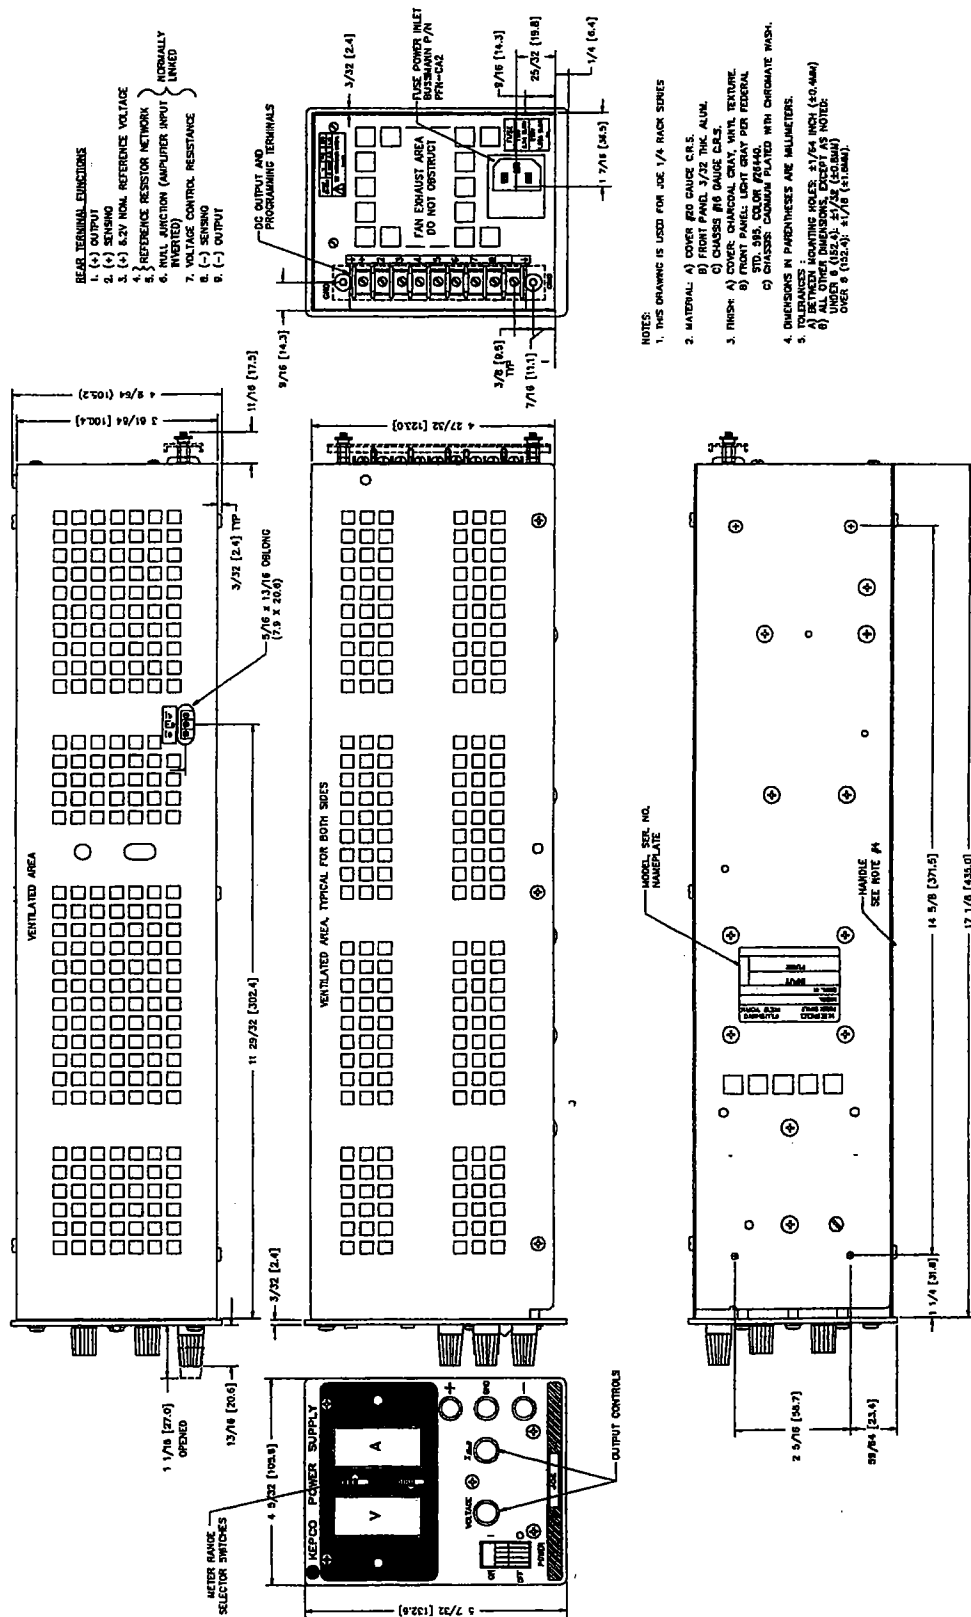

FIGURE1-1 JQE 1/4 RACK MECHANICAL OUTLINE DRAWING
2.10 INSTALLATION (Refer to FIG. 1-1 "Mechanical Outline Drawing").